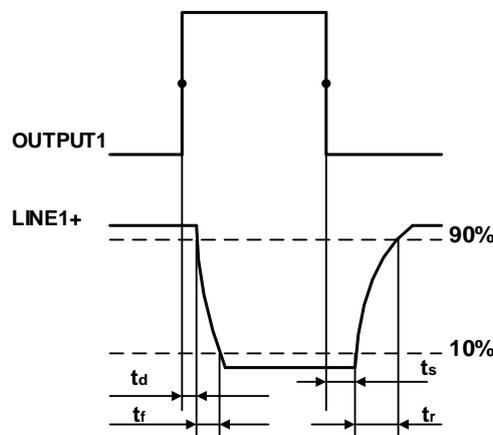

Figure 7-34 Parameter of opto-isolated output circuit
- Rising time delay = t_r+t_d : $<50\mu s$ ($0^\circ C\sim 45^\circ C$) (parameter description is shown in Figure 7-34)
- Falling time delay = t_s+t_f : $<50\mu s$ ($0^\circ C\sim 45^\circ C$) (parameter description is shown in Figure 7-34)